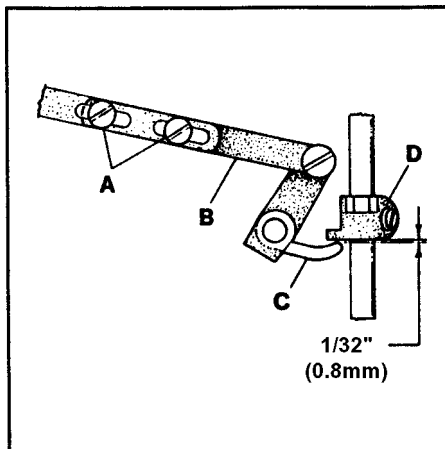

FIG. 22
Replace the presser spring and the presser bar regulating screw. Loosen screws (A, Fig. 22) in lifter lever link assembly (B) and position lever (C) so there is 1/32" (0.8mm) clearance between it and presser bar guide (D) when the feed dogs are below the throat plate.
NOTE: Make sure the $1/32$ " (0.8mm) clearance between the presser bar lifter lever and presser bar guide has been maintained. Refer to Fig. 22 if readjustment is necessary.